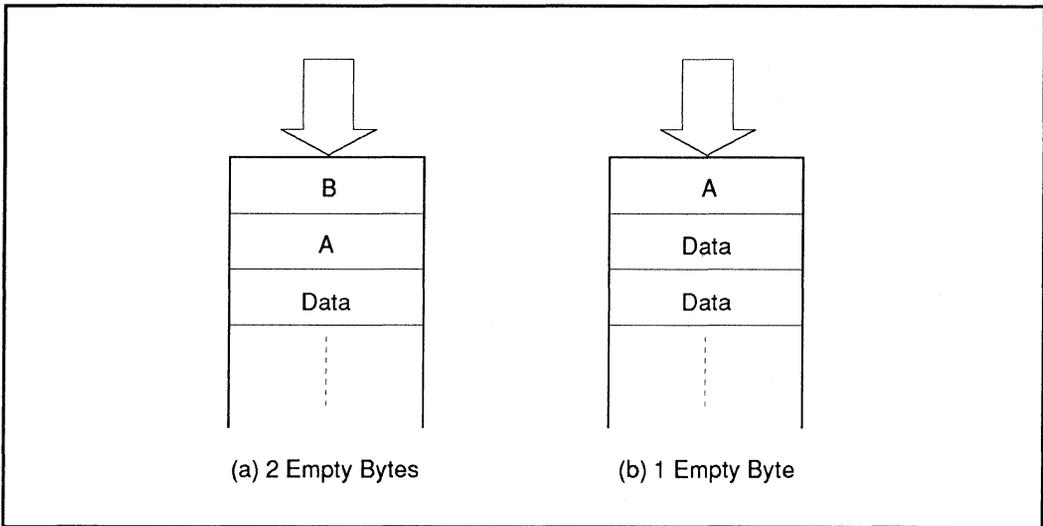

Figure 5-8 Empty Data Byte Arrangement in Transmit Buffer
3. Empty bytes A and B are arranged in the order as shown in figures 5-8 (a) and (b). The transmit buffer sends A and B to the serial unit in that order.